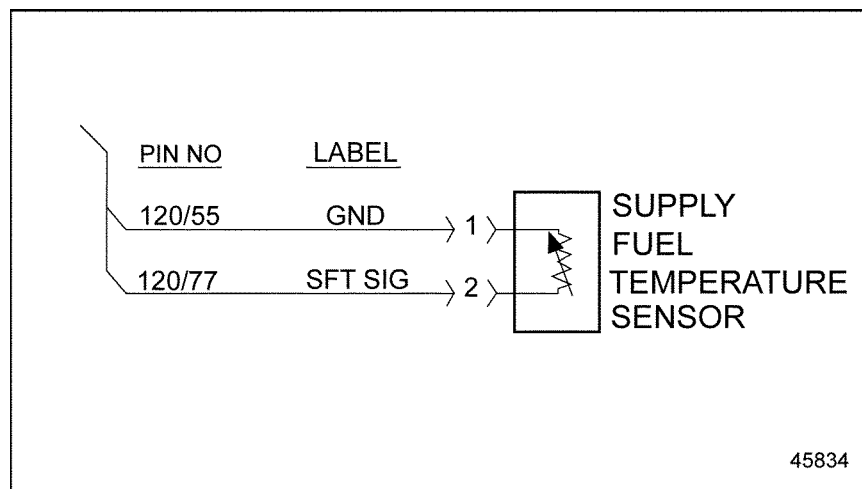

Figure 13-1 Supply Fuel Temperature Sensor
3. Measure the resistance across pins 1 and 2 of the SFT Sensor. See Figure 13-1.